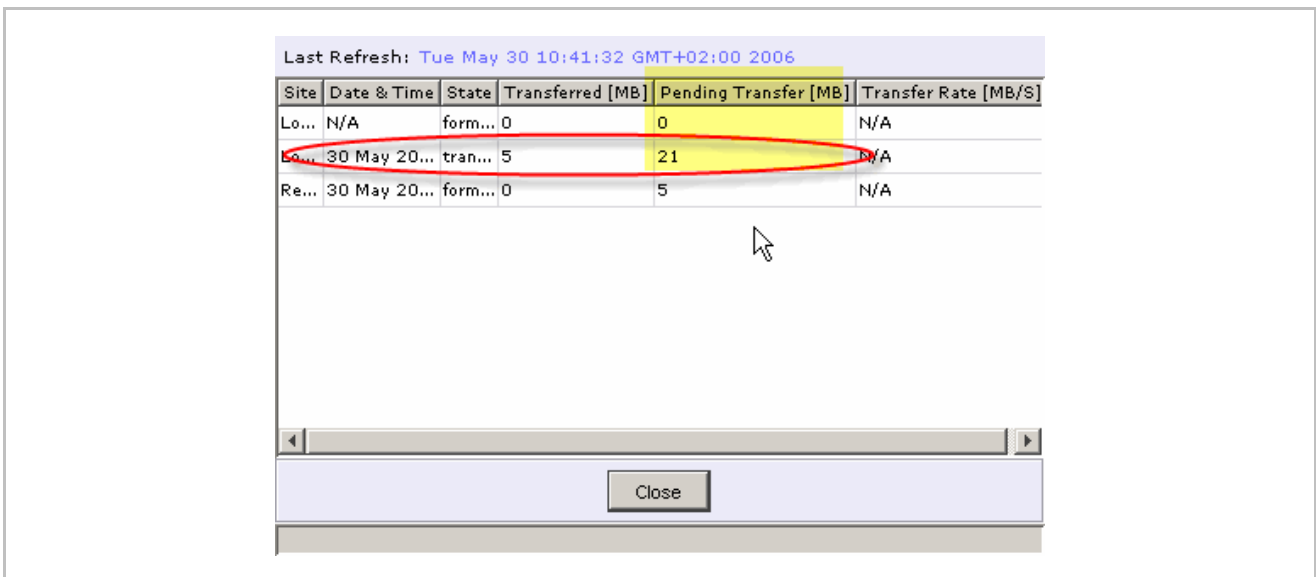

Figure 8. Monitoring Size of Pits being Replicated
4. Check the number under “Pending Transfer [MB]” next to a PIT that is being replicated state (Figure 8).